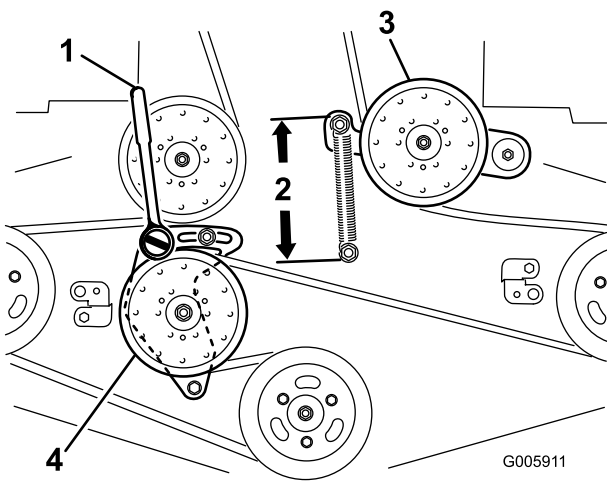

Figure 85
- Loosen the fixed idler arm and adjust it to relieve belt tension (Figure 85).
- Insert a ratchet with a short extension or a breaker bar into the square hole in the fixed idler arm (Figure 85).
- To increase the belt tension, rotate the ratchet or breaker bar counterclockwise to move the fixed idler arm until there is 16.5 cm (6-1/2 inches) between the spring hooks (Figure 85).